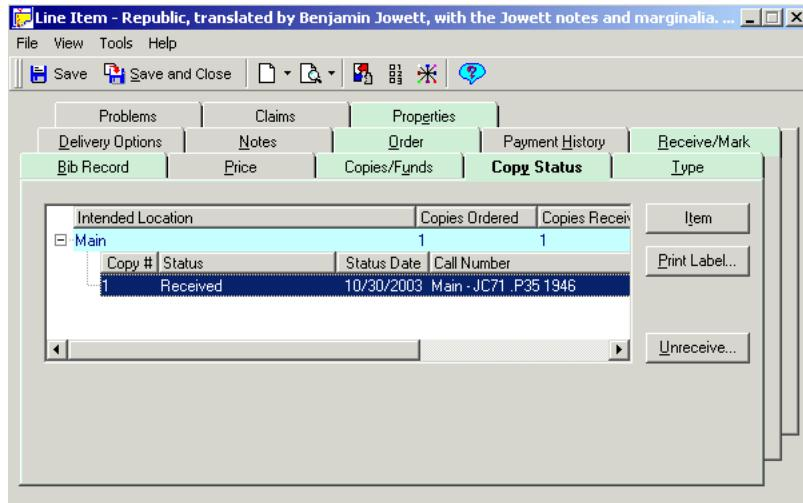

Figure 10-5. Line Item dialog box - Copy Status tab
3. Click the copy (second level of the hierarchy) that is associated with the item record that you want to create/ maintain (Figure 10-5) and then click the **Item** button or press **Alt + T** on your keyboard.